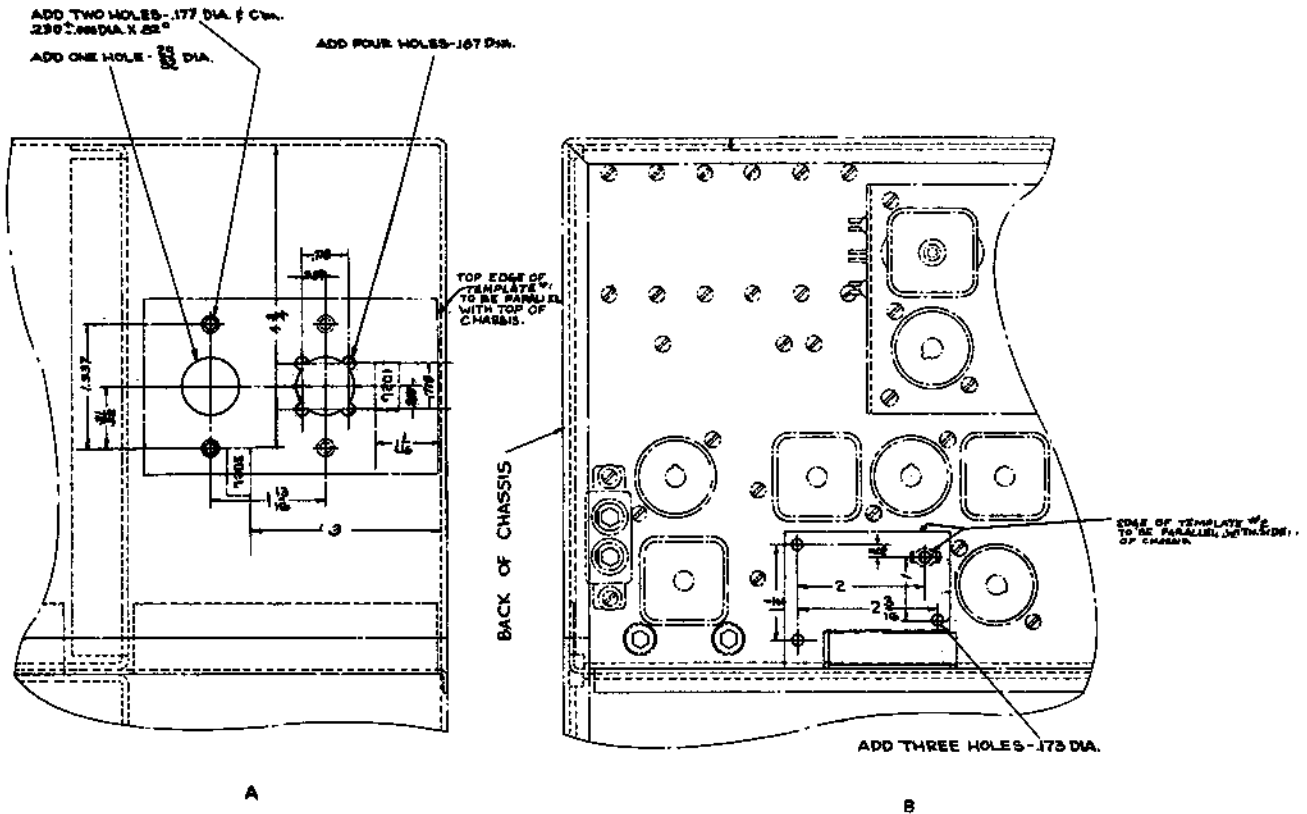

Figure 2-2—Panoramic Coupling Kit, Type CLP-10335, Chassis Drilling (Diagram P-722275)
### 3. Chassis Drilling. (See Figure 2-2.)
e. Place the decalcomanias in position as shown in Figure 2-2.